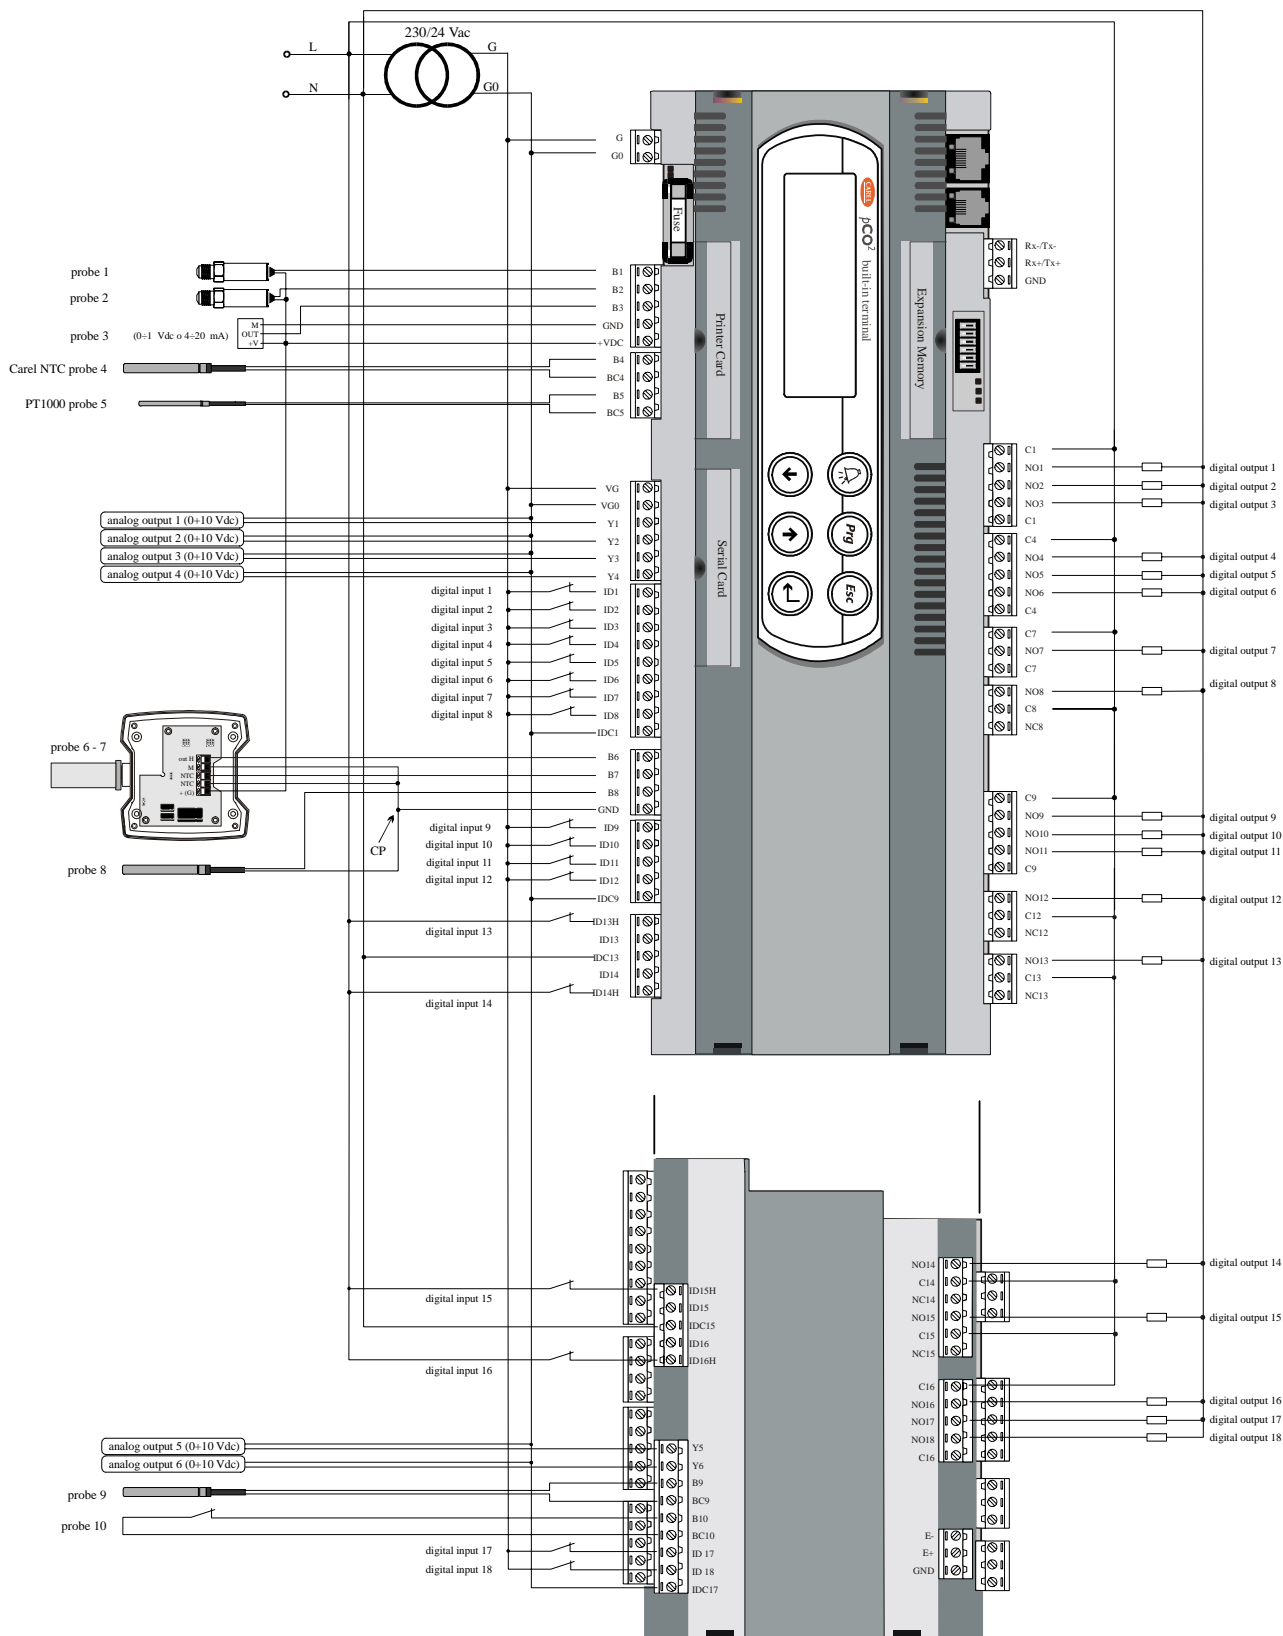

Fig. 7.1
The following are two examples (Fig. 7.1 and 7.2) of how to connect the pCO² to the various devices.
- The CP equipotential connection, Fig. 7.1 (probe 8), must be performed directly on GND terminal and **never** outside the electrical panel.